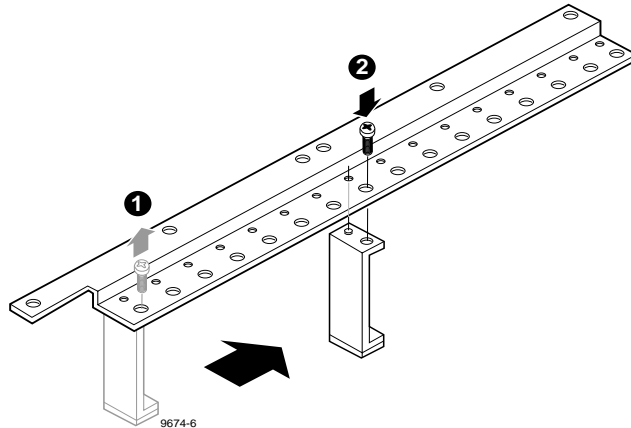

Figure 9. Short board retainer bracket and extender example
1. Use the Torx tool with the T15 bit and remove extender retaining screw (❶ in Figure 9) from the bracket.
3. Ensure that the extender alignment nub is in the hole on the bracket and replace retaining screw (❷ in Figure 9).